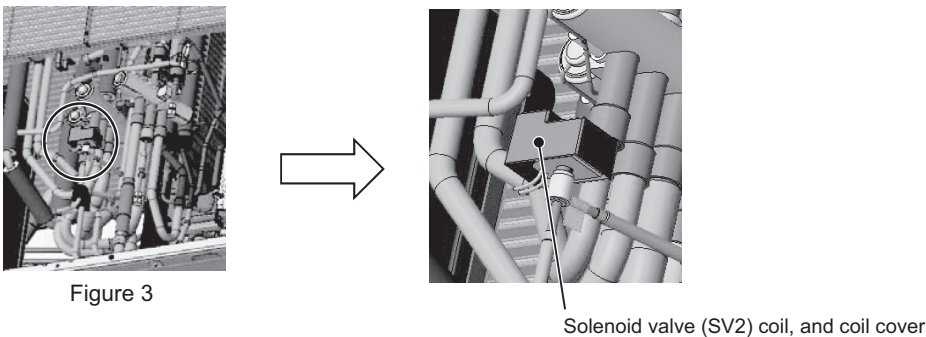

Figure 3
(2) Remove the coil (four-way valves (21S4a, 21S4b, and 21S4c), and solenoid valve (SV2)), coil cover, and wiring. (See Figure 3.)